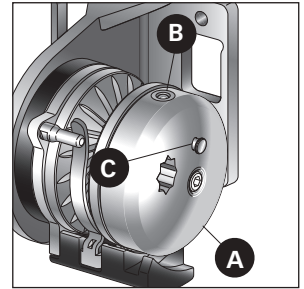

FIG. 1
- Turn the cover **A** until the pin's hole **B** faces upwards (as shown in fig. 1).
- In the established spot of the rope, fix the Automatic Stop with the 4 screws (see fig. 1).